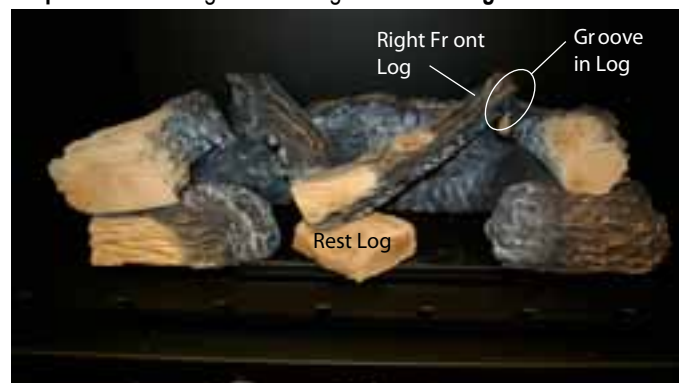

Figure 27e. Placing Right Center Log.
Step 7. Place the Right Centre log as shown in **figure 27e**.